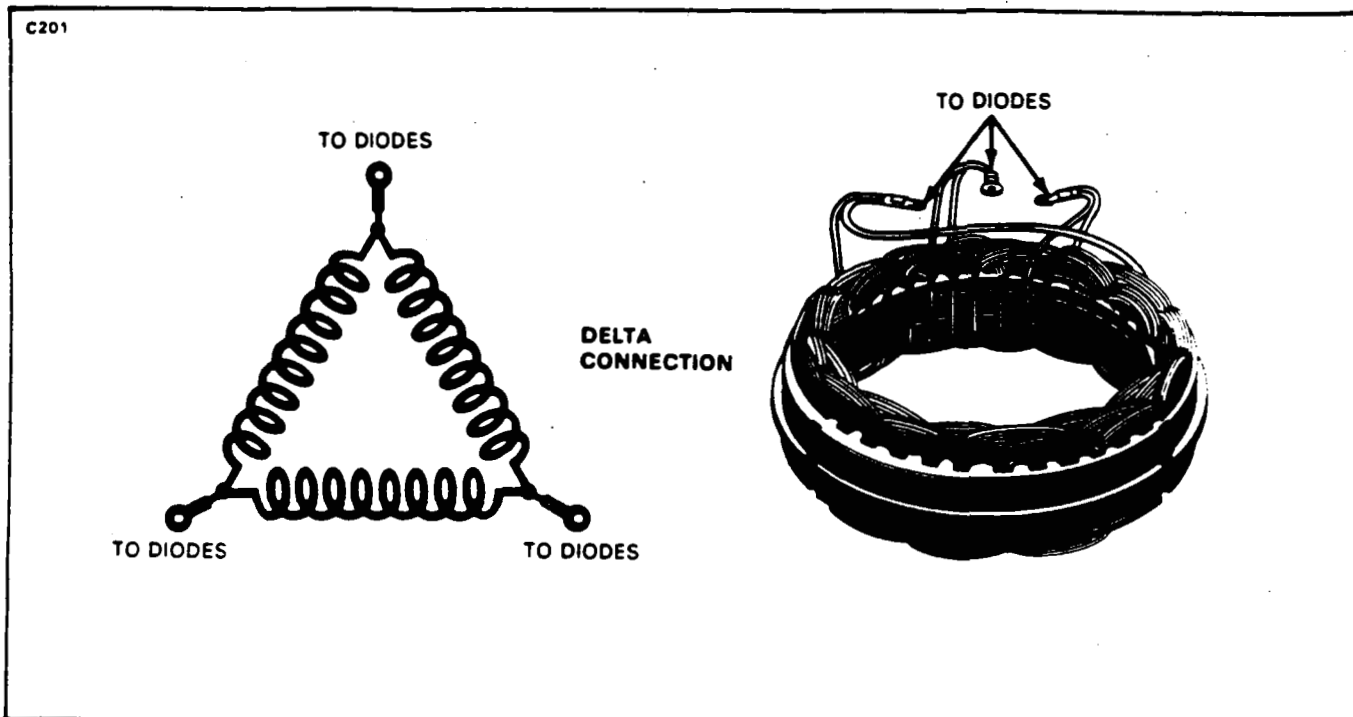

Figure 24-18. Stator Core Windings
3. The stator core and coil assembly consists of a number of steel stampings riveted together to form the stator core which contains 36 equally spaced vertical slots to accommodate the stator coil windings. (Refer to Figure 24-18.)